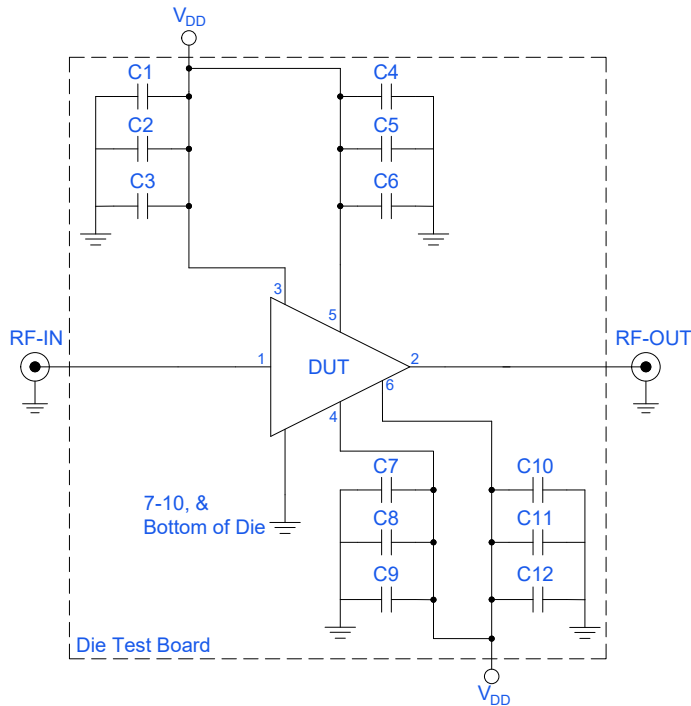

Figure 3. AVA-6183MPS-D+ Characterization and Application Circuit
1. Tested on Mini-Circuits Die Characterization Test Board. See Figure 3. Loss de-embedded to the RF input and output wire bonds of the device.